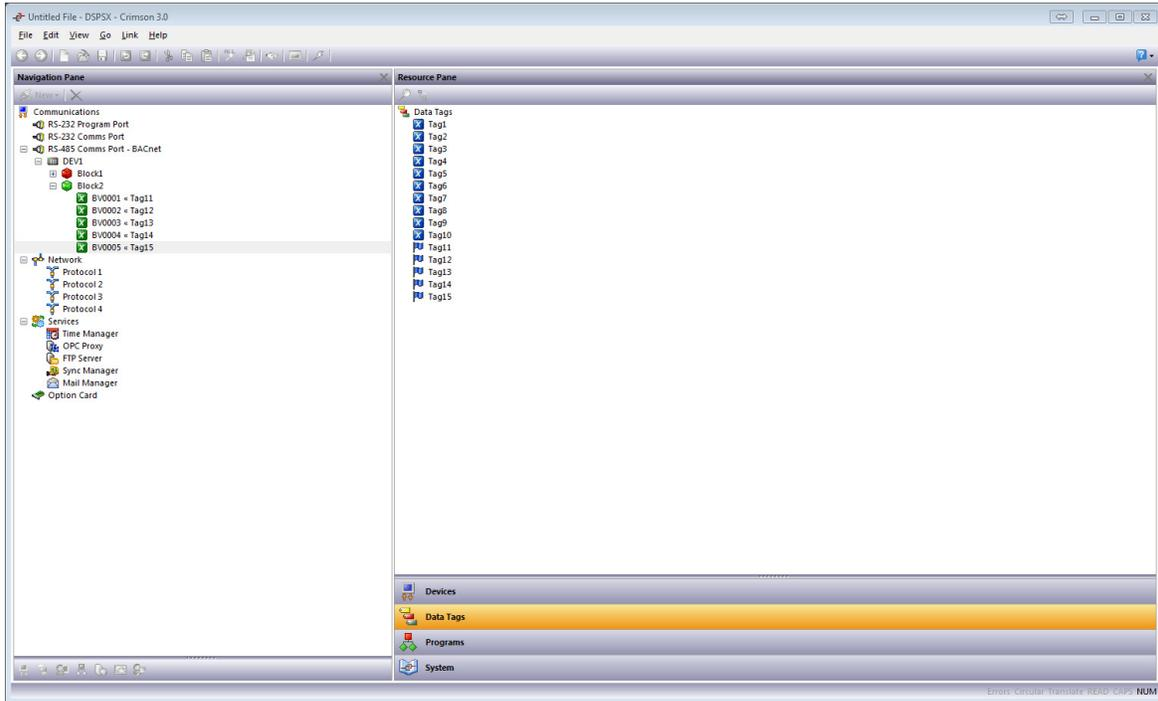

Figure 21.
26. Referring to Figure 21, drag each desired tag from the Resource Pane to the Navigation Pane and drop it on the address with which it will be associated.